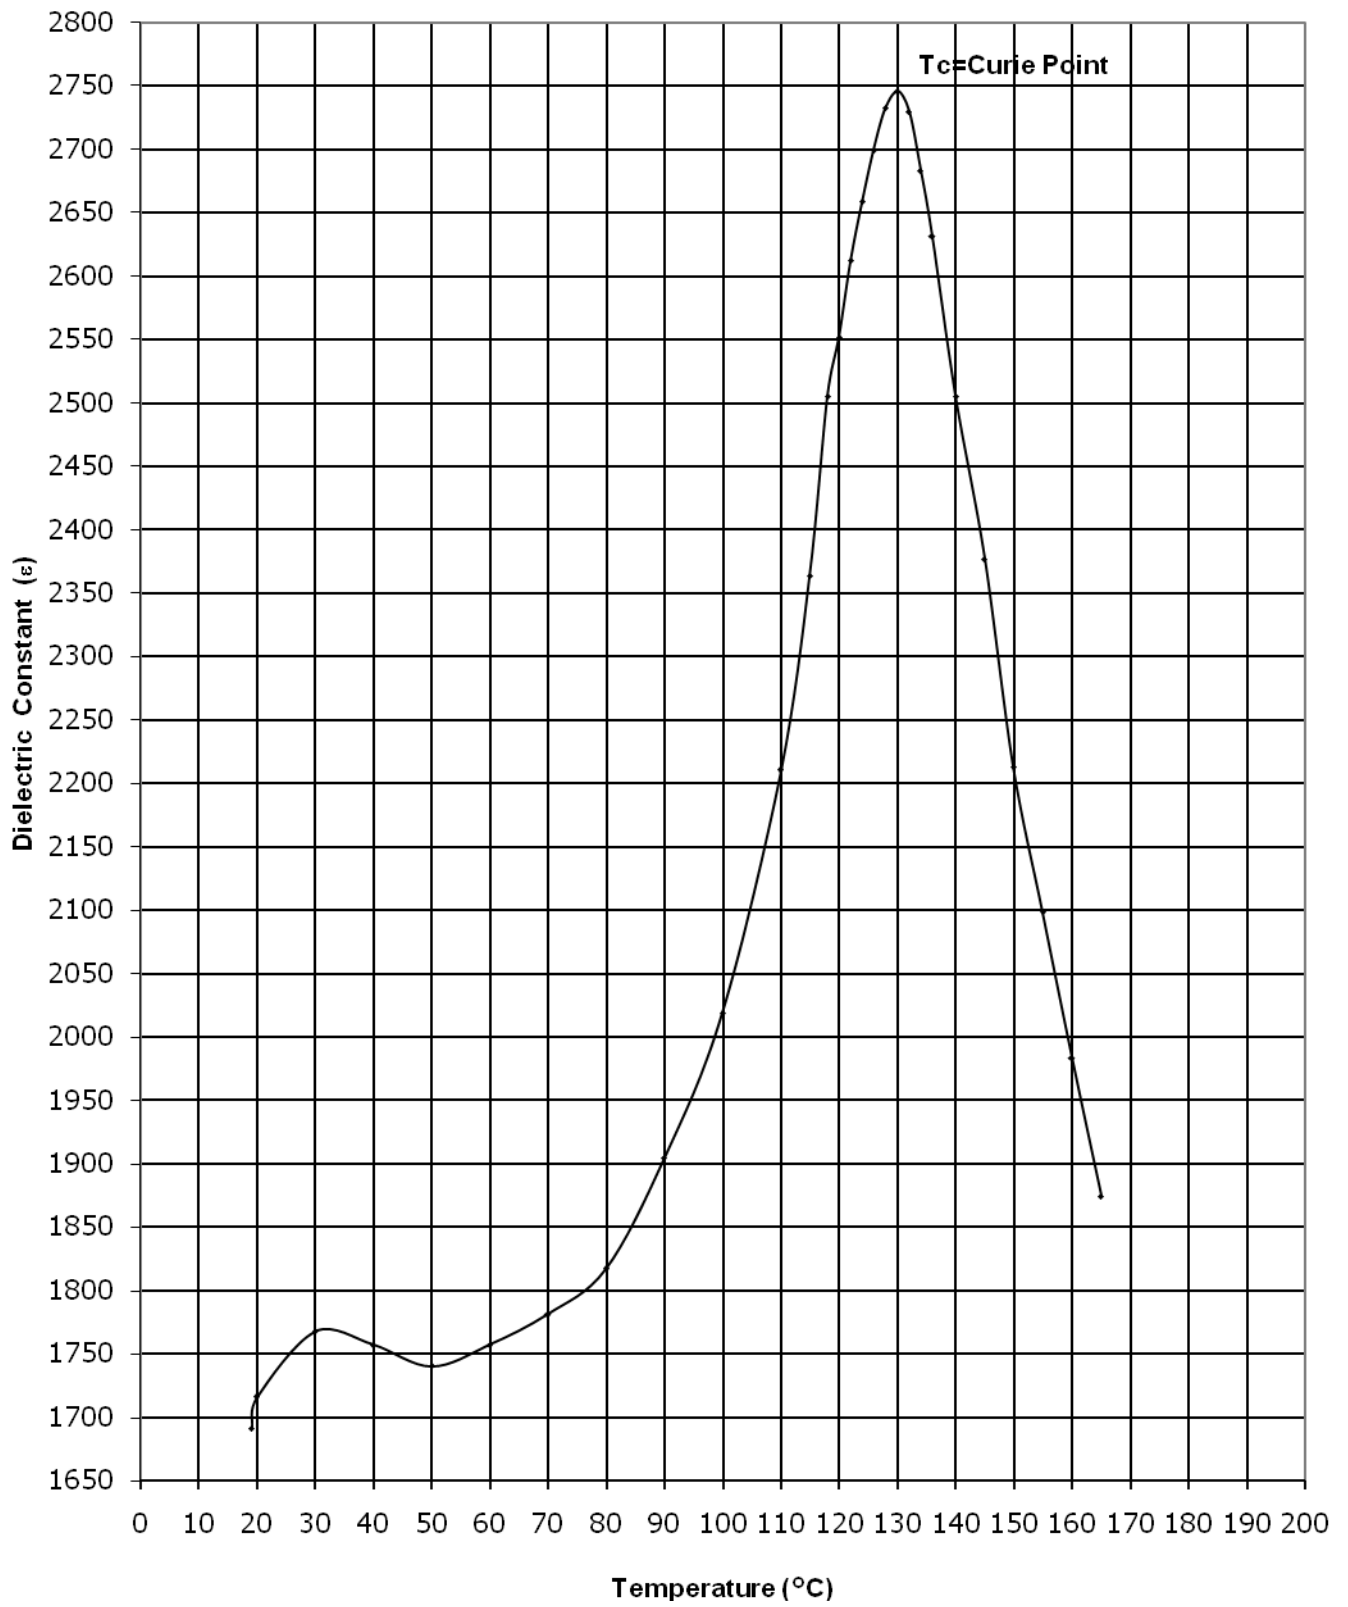

Fig. 7. A plot of temprature v/s dielectric constant
1. A plot of temperature v/s dielectric constant is shown in Fig. 7.